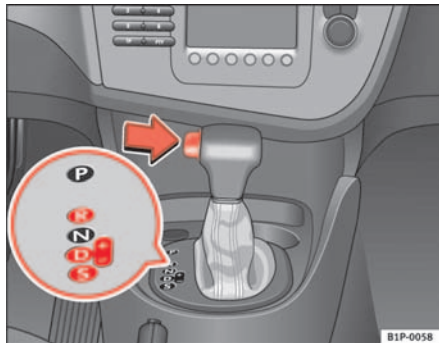

Fig. 118 Driving
- Press on the button on the selector lever knob (on the left, ⇒ fig. 118).